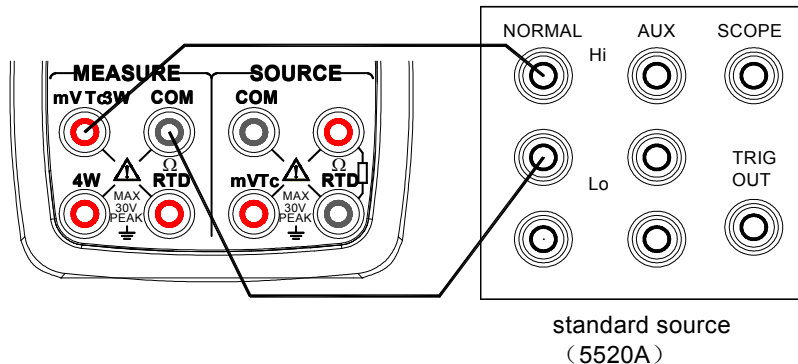

Figure 12 Calibrating DC voltage
**Step 3:** Connect the lead cables to the output terminals of the standard source as shown in Figure 12.